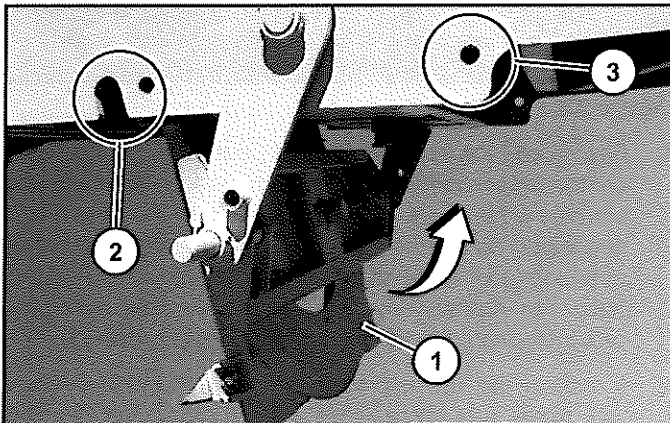

Figure 28
8. If you have a low profile conveyor, the pivot plate and fifth wheel (Item 1) are integrated into the tail end of the conveyor. You will swing the base from the 5th wheel transport position (Item 2) to the operational pivot base plate position (Item 3) (Figure 28).